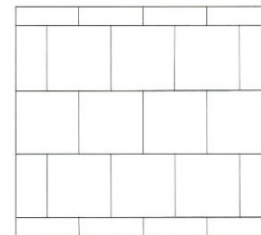

Figure 1
- Lay Galaxy™ Pro Tile in a running bond (staggered) pattern. (see figure 1)